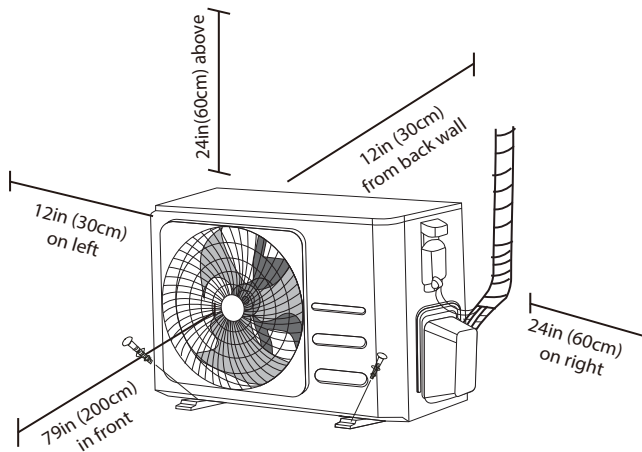

Fig. 2 —Outdoor Unit
- Figure 2 is only a sketch. The actual model may differ slightly.